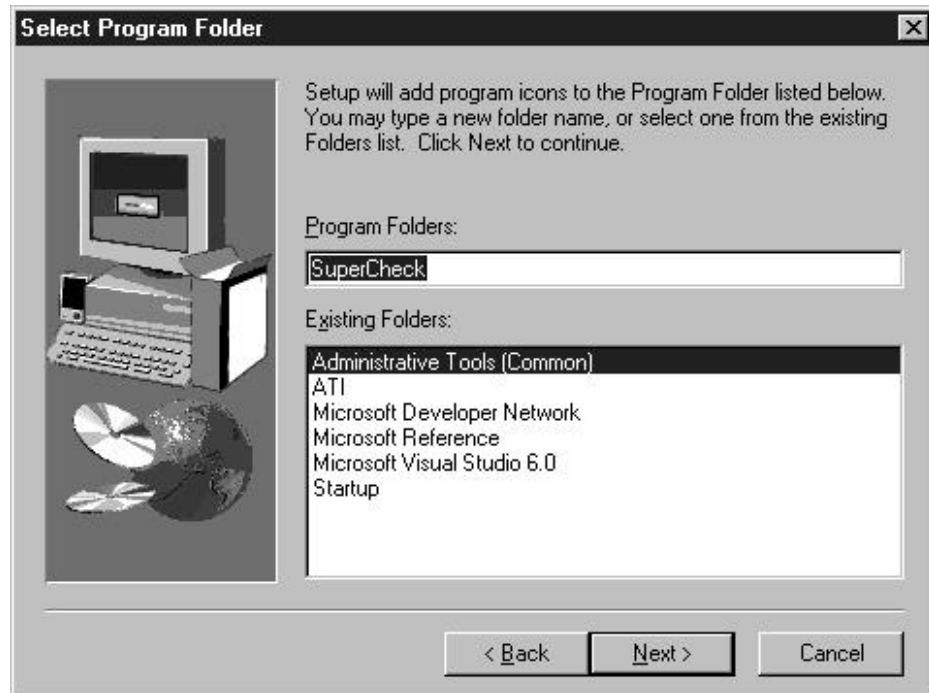

Figure 20: “Select Program Folder” window
- 8) The “Select Program Folder” window comes up next, shown in Figure 20 below. Choose a Start menu folder to list this item under by entering a folder name, and selecting a “parent” folder from the list under which this new folder's contents will reside. Click the “Next” button to proceed.